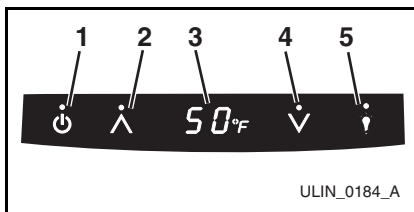

Figure 3
To turn the unit on or off, touch and hold the POWER icon (Figure 3, 1) on the display panel for approximately five seconds until the °F symbol flashes and release.
- The display (Figure 3, 3) will show the unit set-point temperature when the unit is on and will show OFF when the unit is off.
The LIGHT icon (Figure 3, 5) on the control panel is used to change the lighting functions.
1. Touch and hold the LIGHT icon (Figure 3, 5) for ten seconds and release (the °F symbol will flash briefly at the end of the five second period).
2. The interior light and control display (Figure 3, 3) will go dark for the next 36 hours.
1. Touch and release the LIGHT icon (Figure 3, 5) to switch from door-operated lighting control to continuous lighting (the °F symbol will flash briefly after the LIGHT icon is pressed).